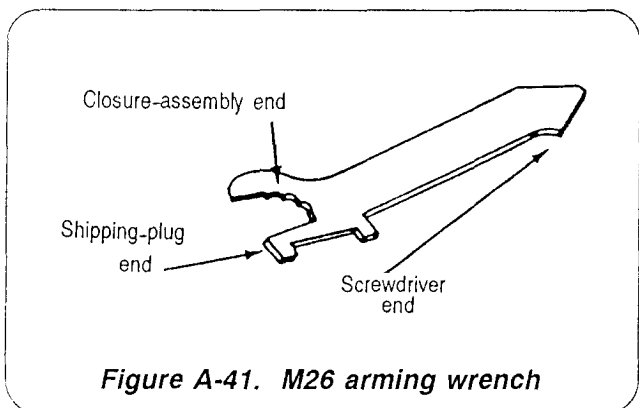

Figure A-41. M26 arming wrench
- a. Use a screwdriver end of an M26 wrench to remove the closing plug from the bottom of the mine (Figure A-41).